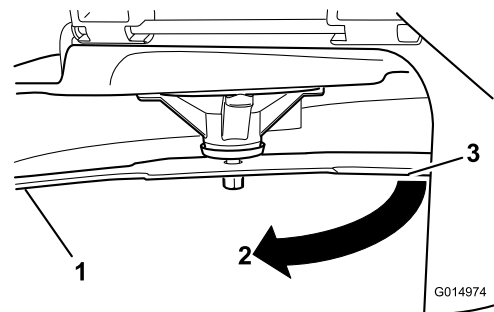

Figure 47
3. Measured distance between blade and surface (A)
4. Rotate the same blade 180 degrees so that the opposing cutting edge is now in the same position (Figure 47).